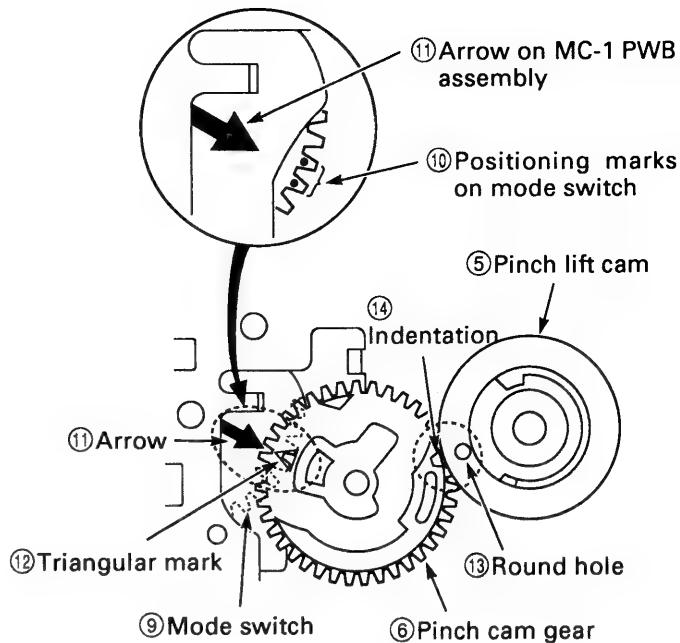

Fig.3-9-3
1. Apply grease (VHJ-0100) around the shaft ⑦, all over the teeth ⑧ of the pinch cam gear ⑥, all over the teeth of the pinch lift cam ⑤, all over the cam grooves ⑨, and all over the "V Part ⑩" of the opener mounting ③. Apply grease (VHJ-0101) to the outside of the shaft ⑧ and all over the top cam ⑪ of the pinch cam gear ⑥.
2. Check that the positioning mark ⑫ on the mode switch ⑬ is aligned with the arrow ⑭ on the MC-1 PWB assembly, as shown in Fig.3-9-3. Then align the triangular mark ⑫ on the pinch cam gear ⑬ with the arrow ⑭ on the MC-1 PWB assembly. After that, align the round hole ⑬ on the pinch lift cam ⑤ with the indentation ⑭ on the pinch cam gear ⑥.